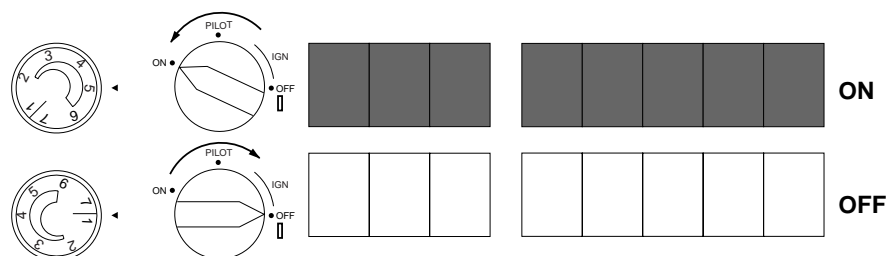

Figure 22 - Burner Patterns
8. When pilot is lit, turn the control knob to ON position (see Figure 22).
9. To select desired heating level, turn the temperature setting knob counterclockwise between 1 and 7 (see Figure 22).